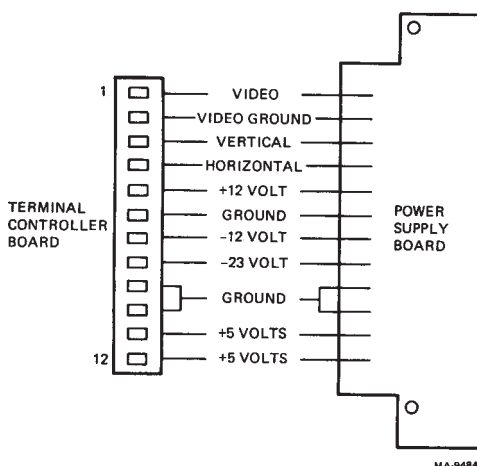

Figure 1-6 Voltage Test Points
Refer to Figure 1-6 during this procedure.
2. Turn the terminal power on and check for +12 Vdc at pin 5 on the power supply board connector (Figure 1-6).
6. Turn the terminal power on and check for +12 Vdc at pin 5 on the terminal controller board connector (Figure 1-6).